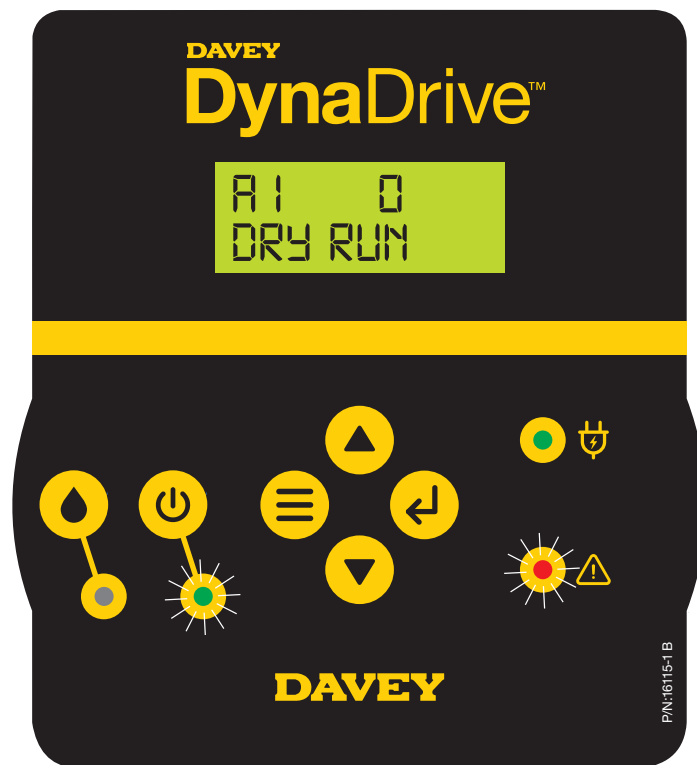

Figure 7.9
The ⏻ **Automatic LED** will also flash on the control display, see figure 7.9.
- Once the motor has slowed to a stop, press and hold the  **Menu button** and  **Enter button** for ~ 5 seconds. The display will change to show your current set pressure, see figure 7.9;